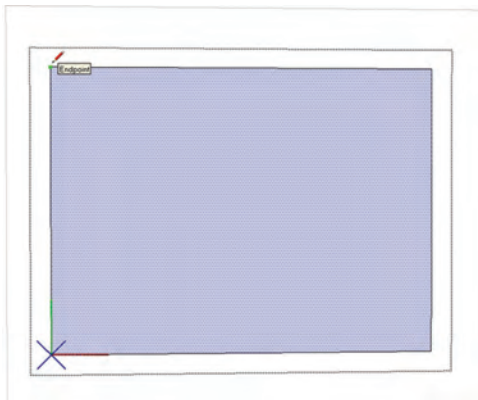

Fig. 9-7: Heal the face in the Window component instance.
7. Edit the newly created component. In the component instance, use the Line tool to heal the missing face (Fig. 9-7).